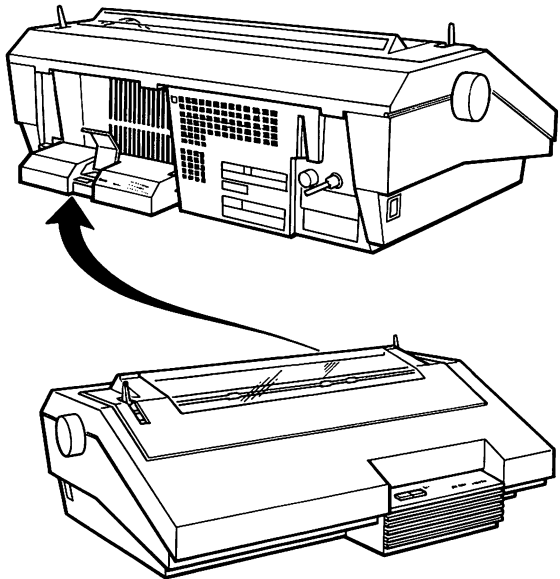

Figure 3-19. Back and front views of 635 Printer.
- Locate the interface cartridge at the back of the printer. (See Fig. 3-19.)